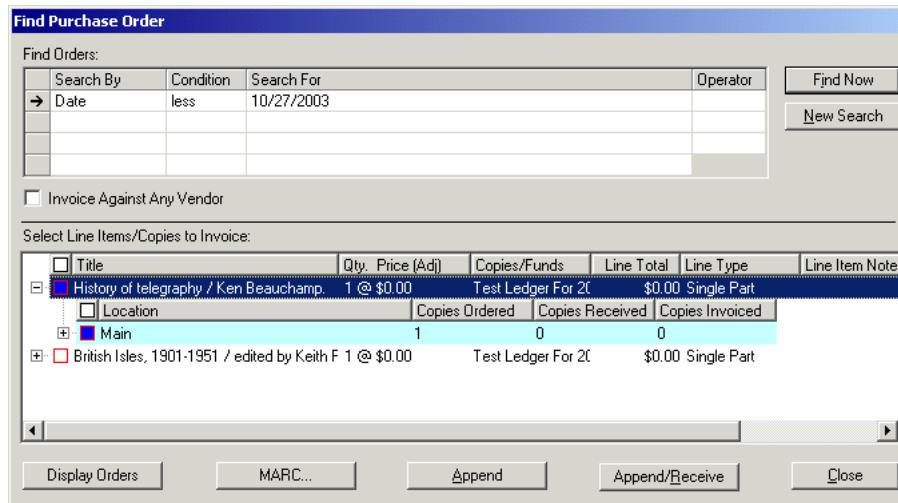

Figure 13-4. Find Purchase Order dialog box - MARC button displayed
- The **MARC** button on the **Find Purchase Order** dialog box (Figure 13-4). The **Find Purchase Order** dialog box is used when searching for purchase orders to append to an invoice. See Adding Line Items to an Invoice on page 12-17 for more information.